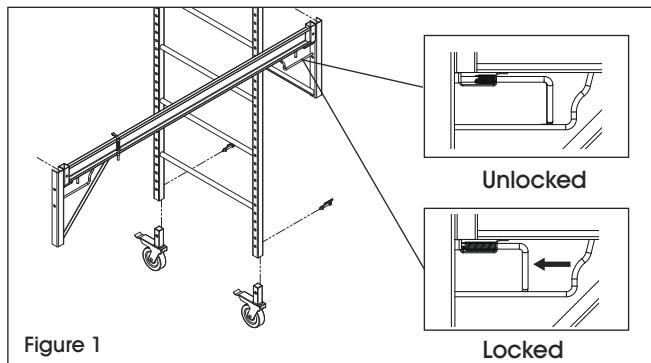

Figure 1
1. Attach each side brace (C) to end frames (A) at the desired platform height. Ensure locking pins on each side brace are fully locked in the end frame at all four locations. (See Figure 1)